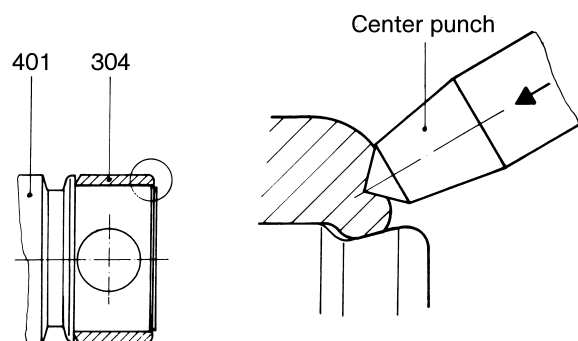

Figure 7: Locking the retaining sleeve.
- Push joint head (307) into the rotor head (401).
- Push coupling rod pin (301) into the coupling rod bush (302), and drive in guide bushes (303) completely.
- Polish retaining sleeve (304) at the outside diameter, if necessary, with emery, and mount on the rotor head (401).
- Following mounting of the retaining sleeve (304), secure same against axial displacement on the rotor head (401).
ATTENTION For these purposes, drive face of the retaining sleeve (304) into the groove at the rotor head (401) with one punch mark (please refer to Figure 7 below).